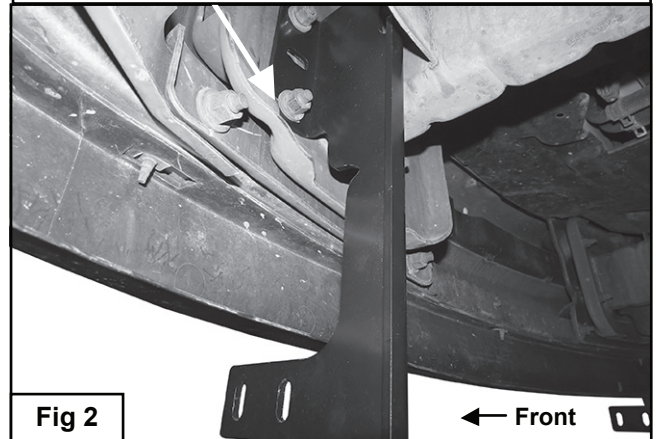

Fig 2
Begin the installation at the underside of the front bumper, (Fig 1). Starting on the driver side, remove the (2) factory hex nuts from the bumper bolts securing the bumper bracket to the back of the bumper. Select the Driver Side Frame Mounting Bracket and hold it up behind the bumper. Align the holes in the Frame Mounting Bracket with the (2) bumper bolts. Attach the Bracket to the bumper bolts using the factory hex nuts, (Fig 2). Snug but do not tighten the hardware.